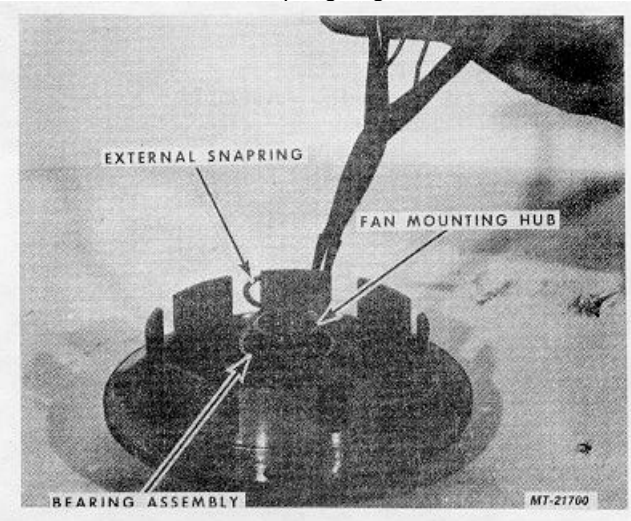

Fig. 8
5. Remove External Snapping, Fig. 8.